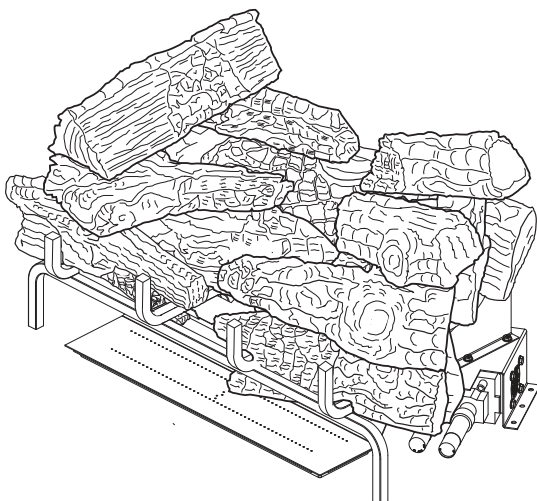

Figure 48 - Final Assembly
12. Final Assembly is shown in **Figure 48, Page 24**.